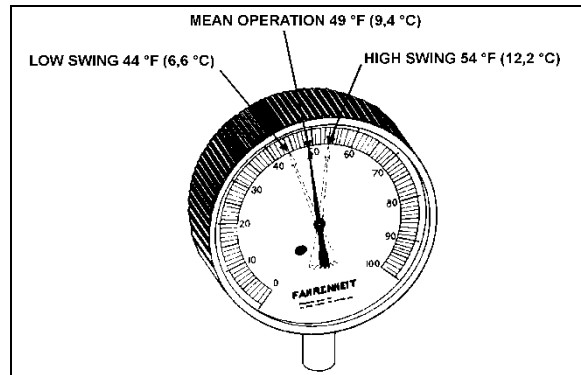

FIGURE 47: HIGH & LOW SWING TEMPERATURE AT REMOTE BULB 22047
6. Check approximately 5 readings of suction pressure at 2-minute intervals and convert to temperature using the temperatures & pressures table (paragraph 7.13). Likewise check the temperature reading at the remote bulb at the same 2-minute intervals and record the low and high swing readings of the needle (refer to Figure 47).